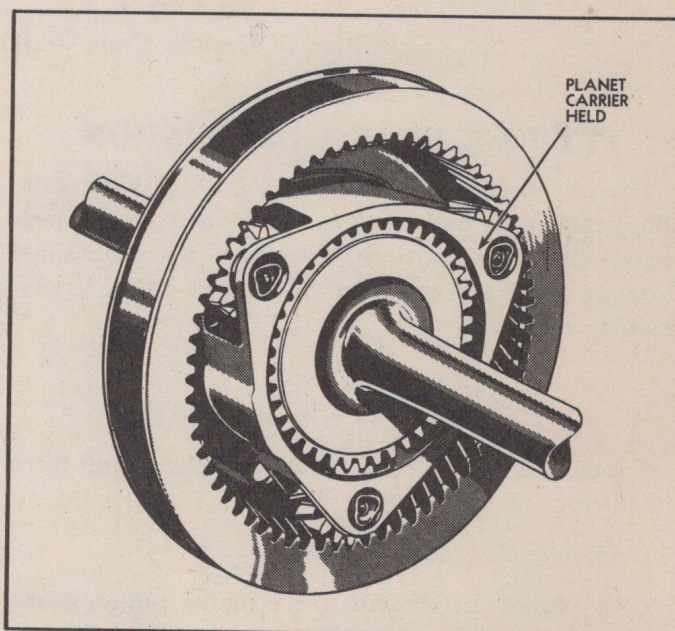

Fig. 8—Reverse—Planet Carrier Held Stationary
2. A planetary gear train can be used to reverse direction of rotation when the planet carrier is held stationary. In this instance, if power is applied to the center gear, the planet pinion gears rotate on their respective pins; but since the carrier is stationary, they act merely as idlers, transmitting power to the internal gear and causing it to rotate in the opposite direction (Fig. 8).